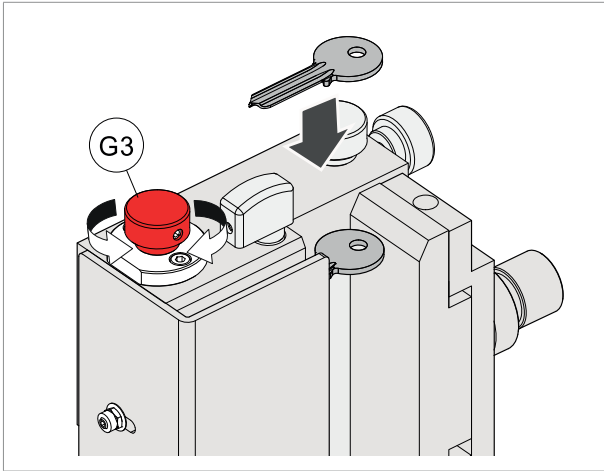

Fig. 109
- 1) Insert the key from the top, as shown in Fig. 109.
- 11) Use knob (G3) to set maximum key stem width (Fig. 109).